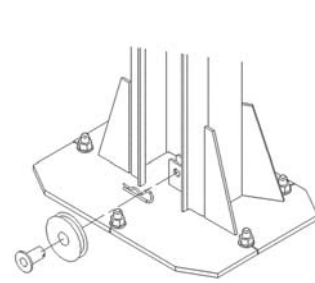

Figure 6c
4. At the bottom of the column, remove the hitch pin, pulley pin and pulley from the baseplate (**Fig. 6c**). Route equalizing cable around pulley and reassemble the pulley to the baseplate. **IMPORTANT – Hitch pin must be installed securely.**